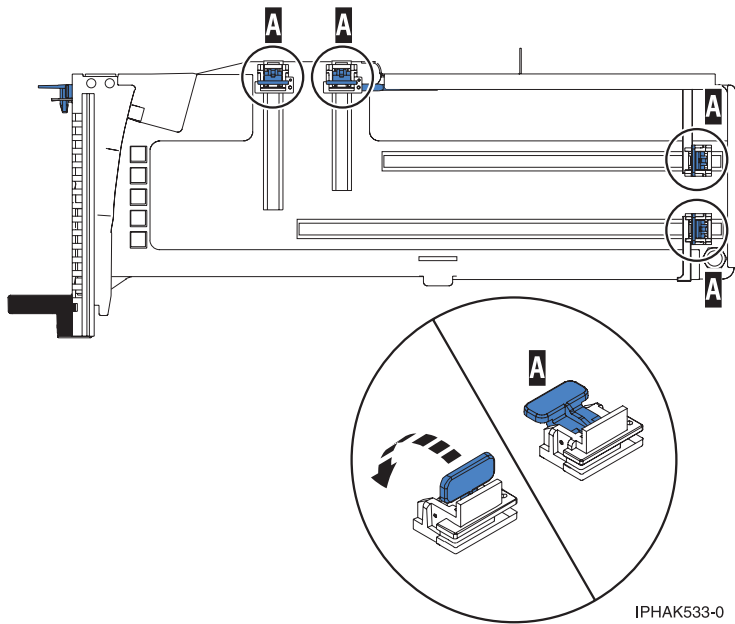

Figure 55. Adapter retainers
- b. Ensure that all of the adapter retainers (A) have been pushed out to the edges of the cassette to allow the placement of the adapter. See Figure 55 on page 65.